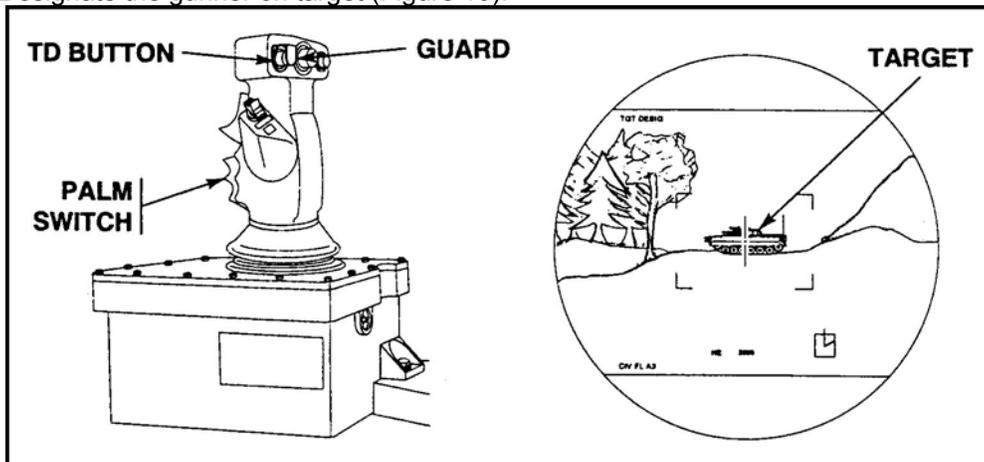

Figure 10. Gunner on target.
d. Designate the gunner on target (Figure 10).